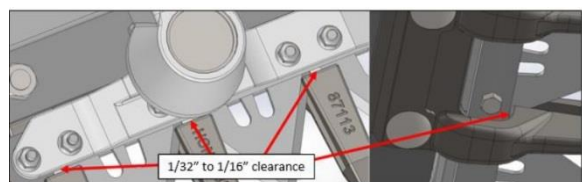

Figure 105
12. The minimum clearance (1/32" to 1/16") between knife assembly and center guards. Figure 105